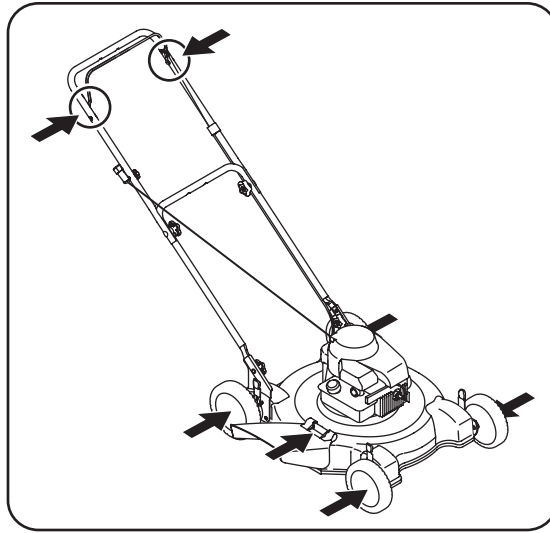

Figure 5-1
1. Lubricate pivot points on the blade control at least once a season with light oil. The blade control must operate freely in both directions. See Figure 5-1.
3. Lubricate the torsion spring and pivot point on the chute deflector periodically with light oil to prevent rust. See Figure 5-1.